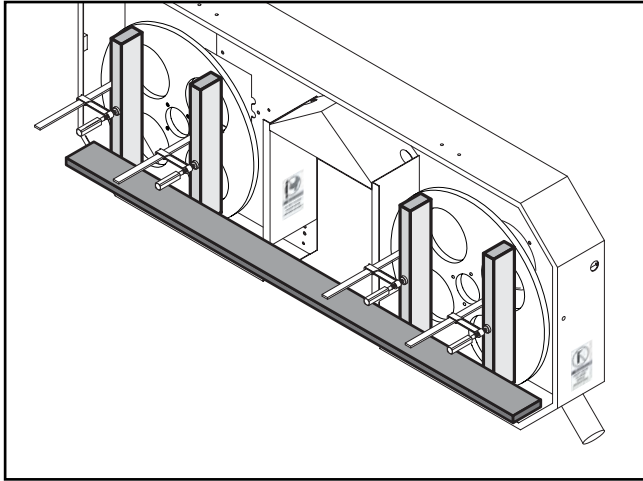

Figure 50. Straightedge placement when checking the lower portion of the wheels.
9. Place the straightedge across the bottom of the gauge blocks, as shown in **Figure 50**. The wheels should line up in the same manner as described in **step 6**.